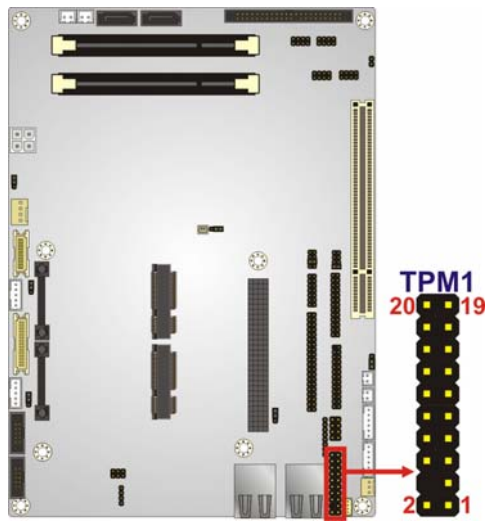

Figure 3-30: TPM Connector Pinout Location
- CN Location:** See **Figure 3-30**